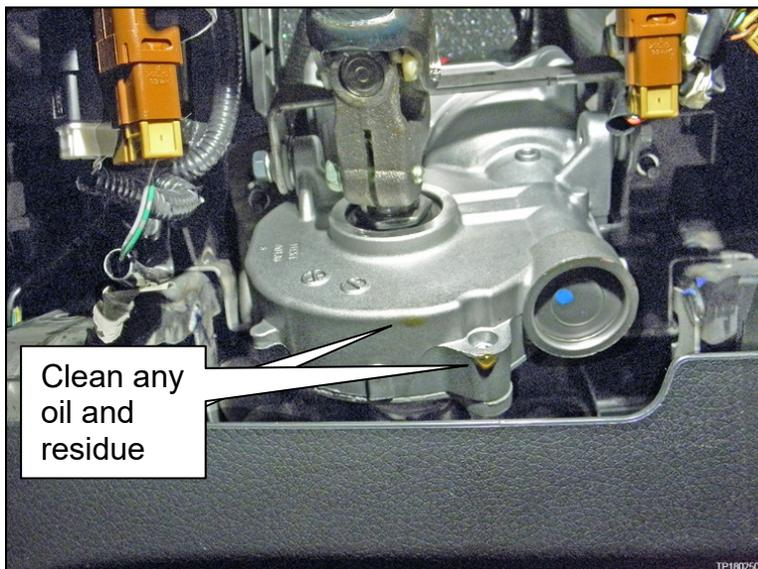

Figure 3
2. Wipe any oil drips and residue from the steering column assembly as shown in Figure 3.